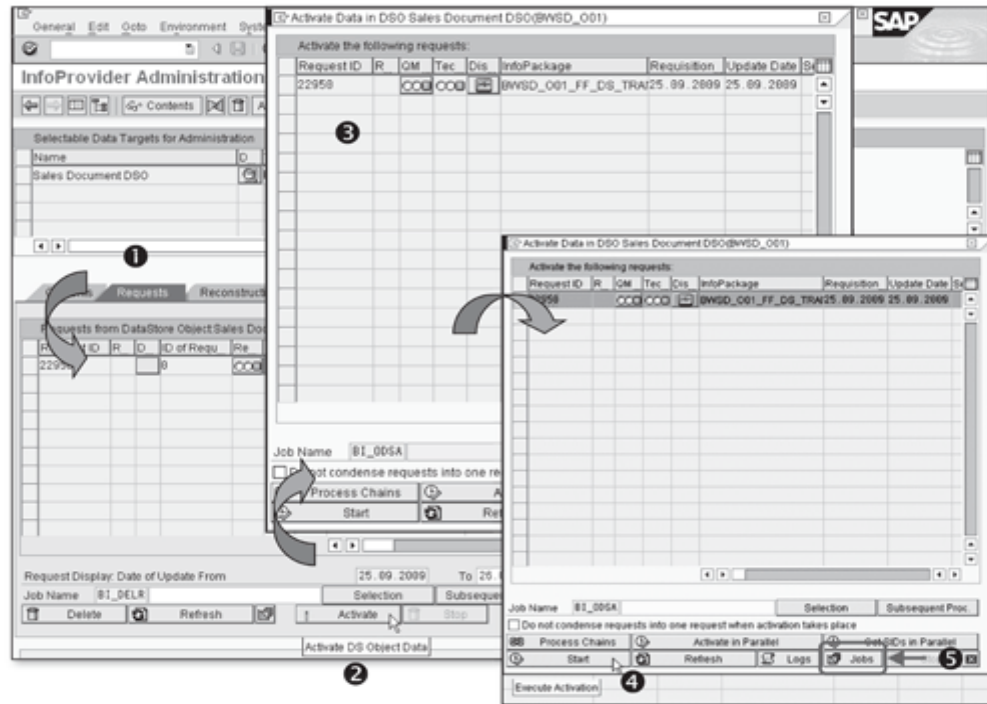

Figure 14.5 Activation of a New Request in a DSO
In Section 4.2.2, Activation Process for a Standard DSO, in Chapter 4, DataStore Object, we explained the process of activating requests in the system at the conceptual level. In this section, we explain the actual execution of the activation of a request in DSO, as this is a regular maintenance task that you perform using the Requests tab (❶ of Figure 14.5).
The Jobs button (❶ of Figure 14.5) takes you to the Simple Job Selection screen (❶ of Figure 14.6), and the system prepopulates the entry box for the job name with a typical naming convention starting with BI_ODS <long technical name>.